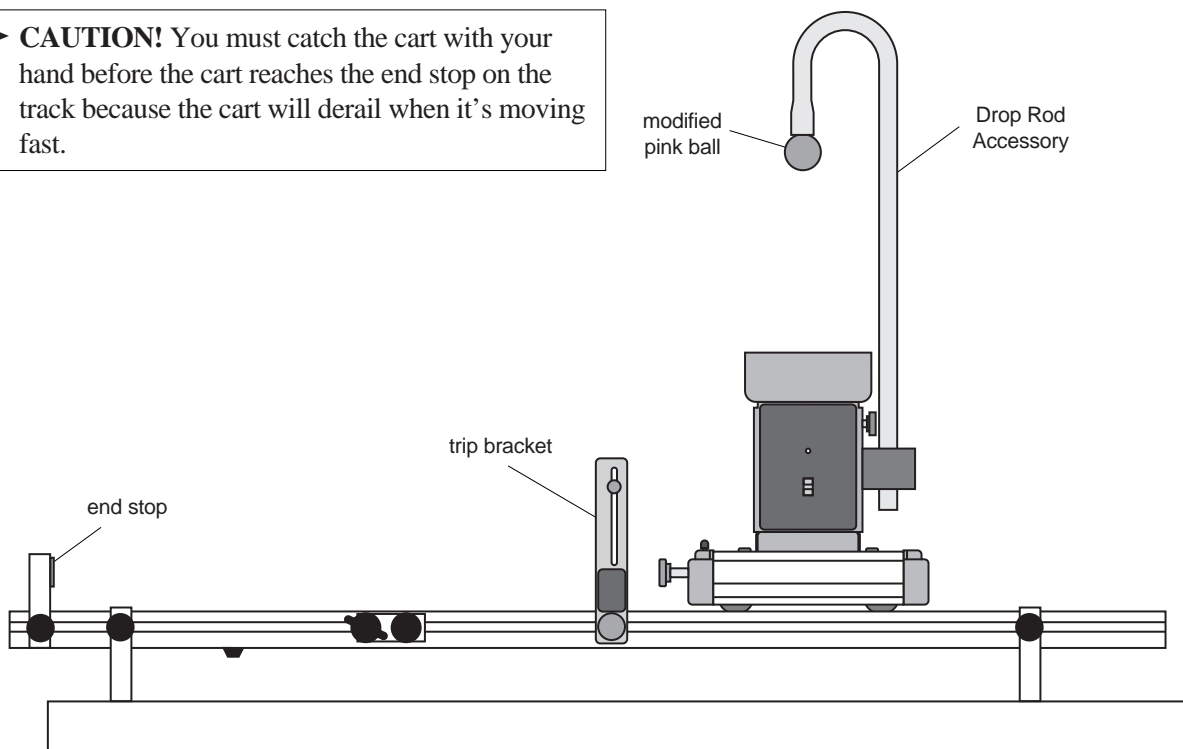

Figure 5.1: Setup for Drop Ball
- ① Prior to the beginning of the demonstration, perform the Setup procedure.
- ② Position the drop rod so that the ball will be directly over the cup. See Figure 5.1.
- ③ With the cart at rest on the track, hang the ball on the drop rod and trip the release mechanism with a penny or other opaque object. This shows the students that the ball is dropped straight down and is caught by the cart.
- ④ Put the photogate trip bracket near one end of the track, leaving enough room to push the cart up to its maximum speed before it reaches the trip bracket. Hang the ball from the drop rod and give the cart a gentle push.
- ⑤ Return the cart to the end of the track. Hang the ball from the drop rod and give the cart a stronger push. The ball will be caught at any cart speed.